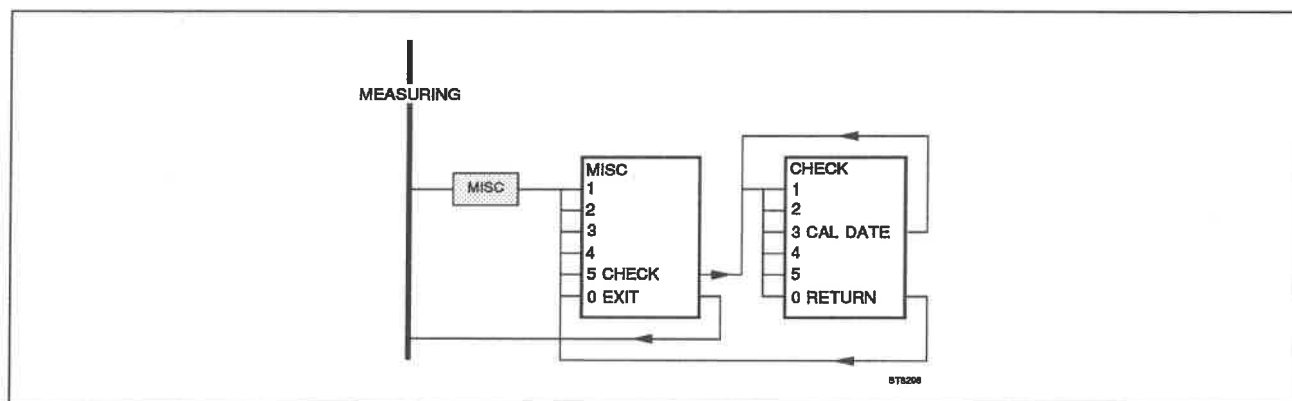

Fig. 6.4 Read calibration date menu.
- press **MISC** to invoke the MISC (MISCellaneous functions) menu (Fig. 6.4).